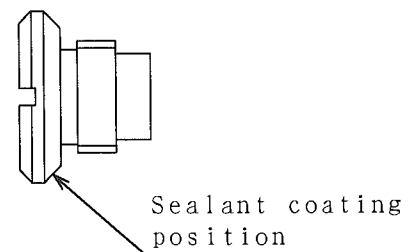

Fig. 12
② Degrease Lock screw (4) and the tapped hole of Gear housing (1) using solvent.
③ Apply sealant to the bearing surface of Lock screw (4) and tighten it with a torque of 20~25 N·m (2.0~2.5 kgf·m) (see Figure 12).